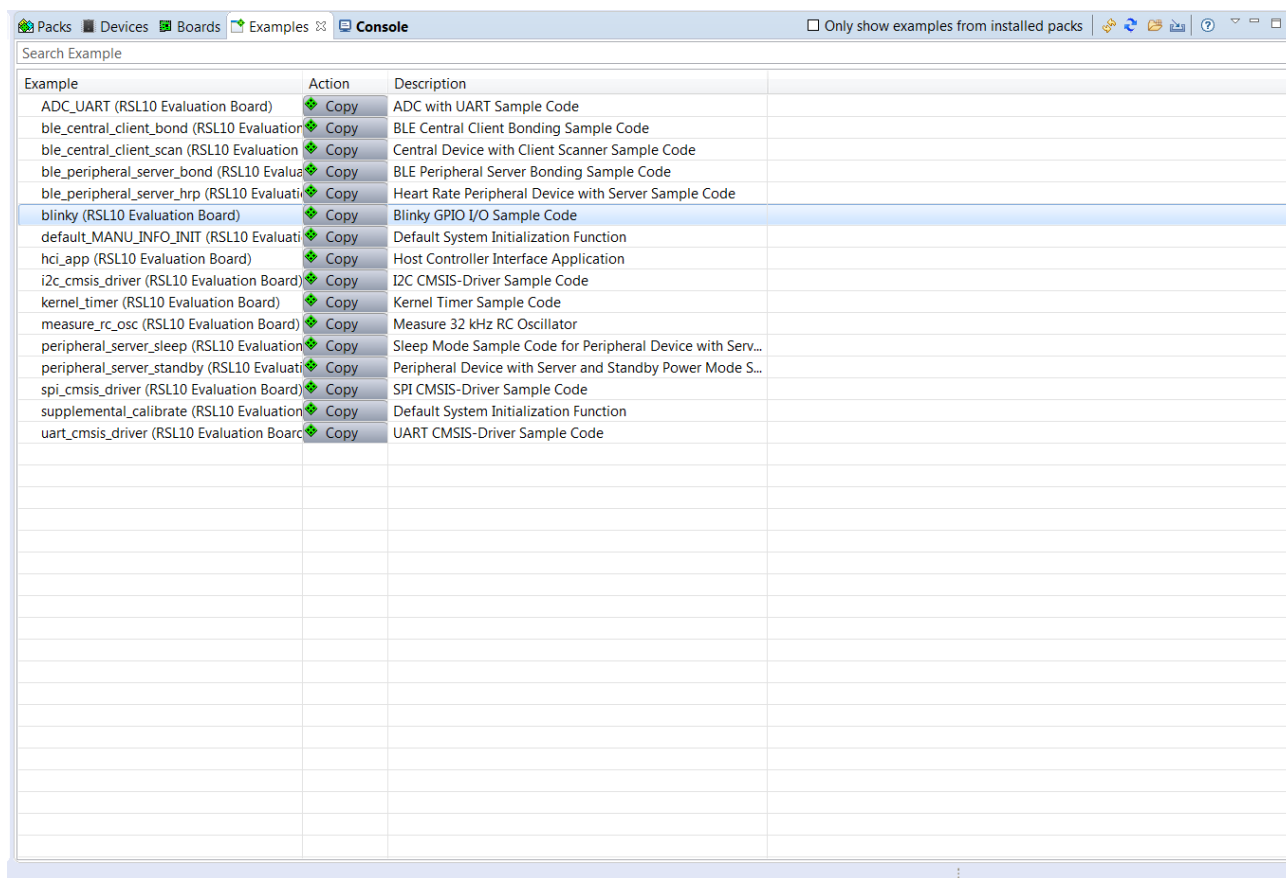

Figure 31. IAR Embedded Workbench CMSIS Manager: Examples Tab
2. Choose the example project called *blinky*, and click the **Copy** button to import it into your workspace (see the figure "IAR Embedded Workbench CMSIS Manager: Examples Tab" (Figure 31)). Choose a destination folder for a copy of the sample code.